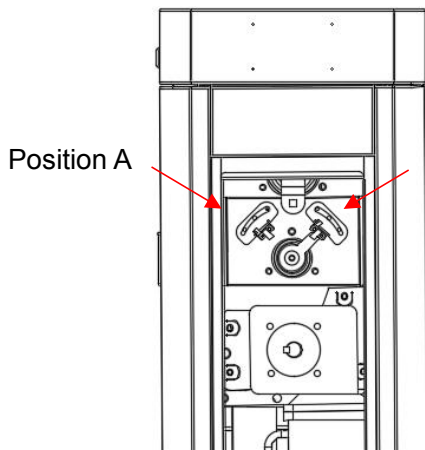

Figure 5-1
- 1) If the boom fails to fall into a level position, adjust position A; if the boom fails to be lifted upright, adjust position B. See Figure 5-1.